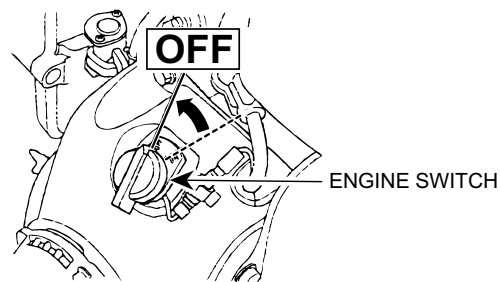

Figure 20. ON/OFF Switch (OFF Position)
- After the engine cools, turn the engine ON/OFF switch to the "OFF" position (Figure 20).